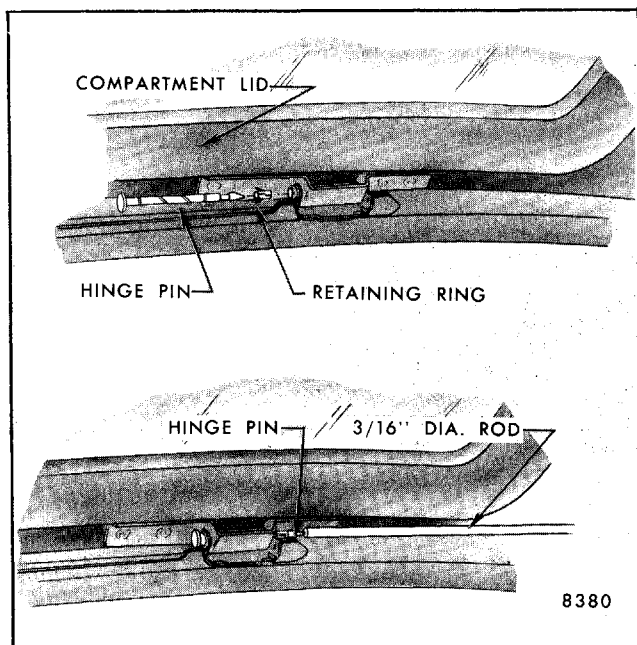

Fig. 7-13-Hatchback Lid Hinge - "H-07, 77" Style - Right Side Shown
5. For "H-07 and 77" styles, with helpers supporting lid, use a 3/16" diameter rod 458 mm (18") long to remove hinge pins from hinges. As illustrated in Figure 7-13, place end of rod against pointed end of hinge pin; then strike rod firmly to shear retaining ring tabs and drive pin through hinge. Repeat operation on opposite side hinge and remove lid from body.
8. To install "H-07 and 77" hatchback lid, reverse removal procedure and prior to installing hinge pins, install new retaining ring in notches provided in pins. Position retaining ring so that tabs point toward head of pin as illustrated in Figure 7-13.